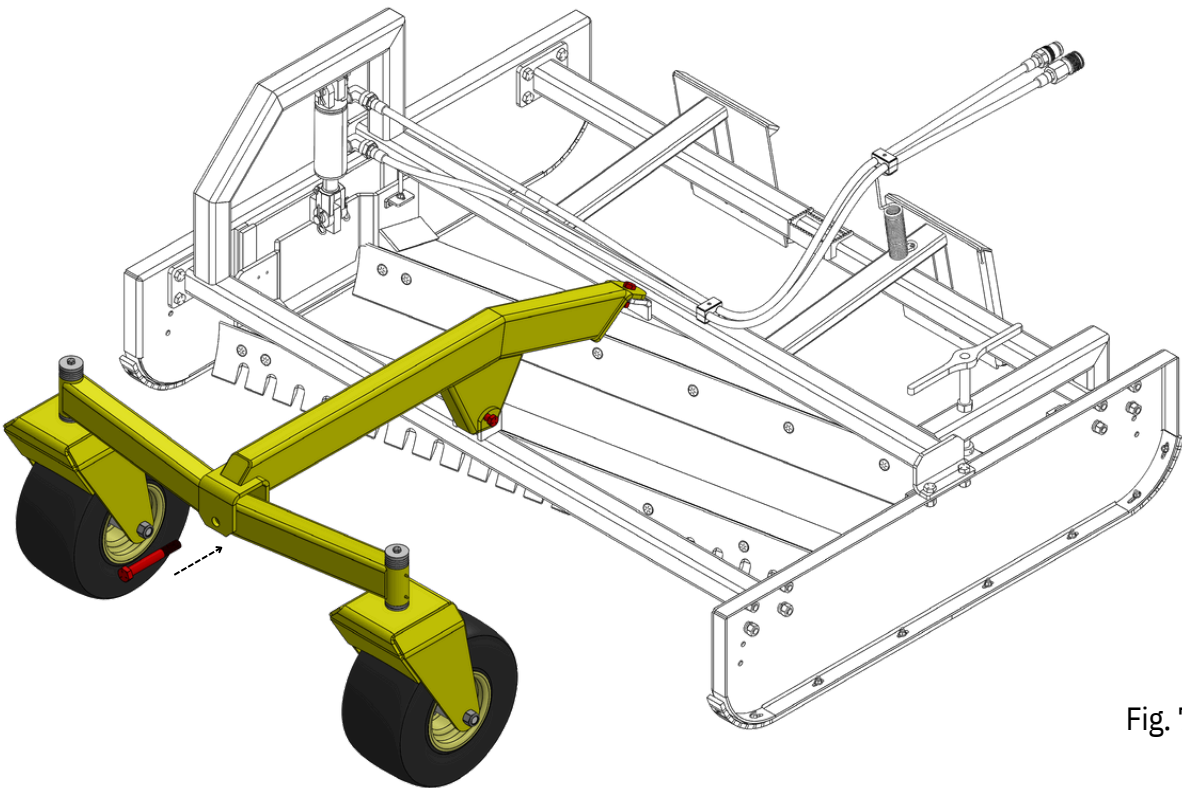

Fig. 7
- Align the hole in the front channel of the Tube Frame with the bolt tube of the Bridge (fig.7).
- Install hardware item 7 securely.